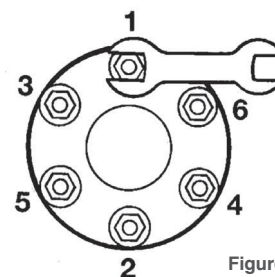

Figure 2
**2.2.4** In both cases the nuts are then further tightened a minimum of 2 full turns in increments of a 1/2 turn only, on each position in the sequence shown in Figure 2. To avoid over tightening the maximum number of turns is 2 1/2.